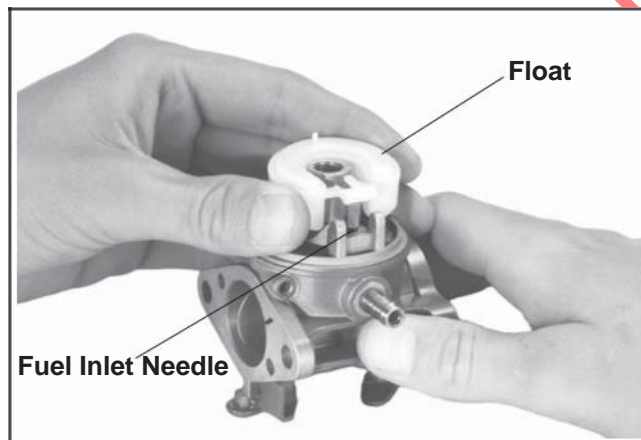

Figure 5-14. Installing Float and Fuel Inlet Needle.
4. Insert the fuel inlet needle into the float. Lower the float/needle into the carburetor body. See Figure 5-14.